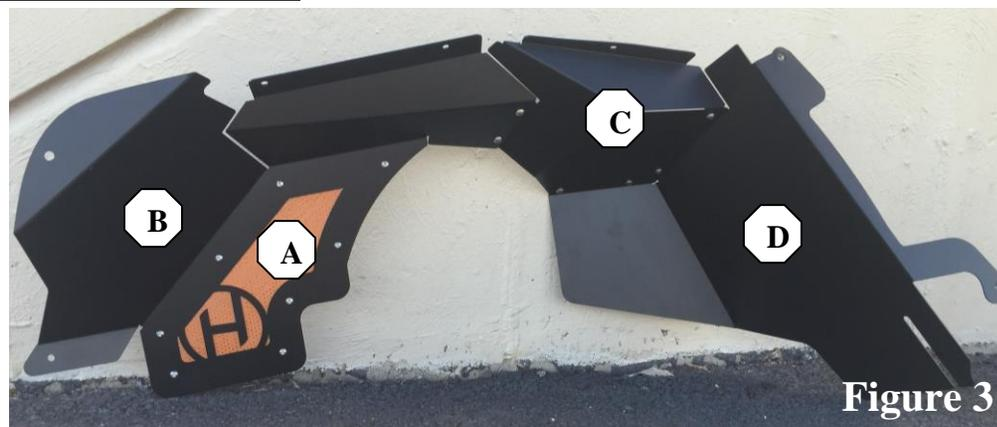

Figure 3
Step 3 – Assemble panel A (Perforated Mesh) onto the back of panel B using (8) 10-32 button head screws and nuts. (See **Figure 3- drivers side shown**).
Step 4 – Assemble panel B to C and C to D to form one unit (See **Figure 3**). All the panels are fastened together using the 1/4"-20 button head screws and nuts.